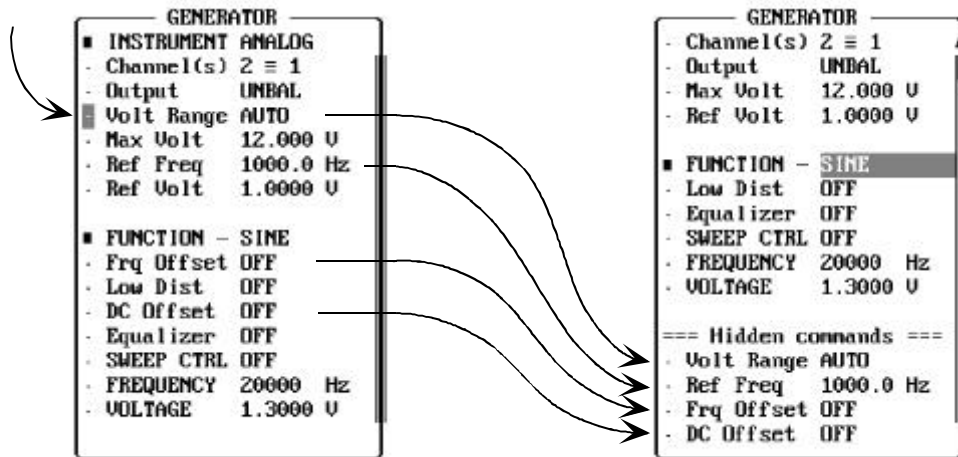

Fig.: 1-9
- to „hide“ and to „restore“ a line is done by selecting it in the check box (see fig. 1-9), and then using the BACKSPACE key